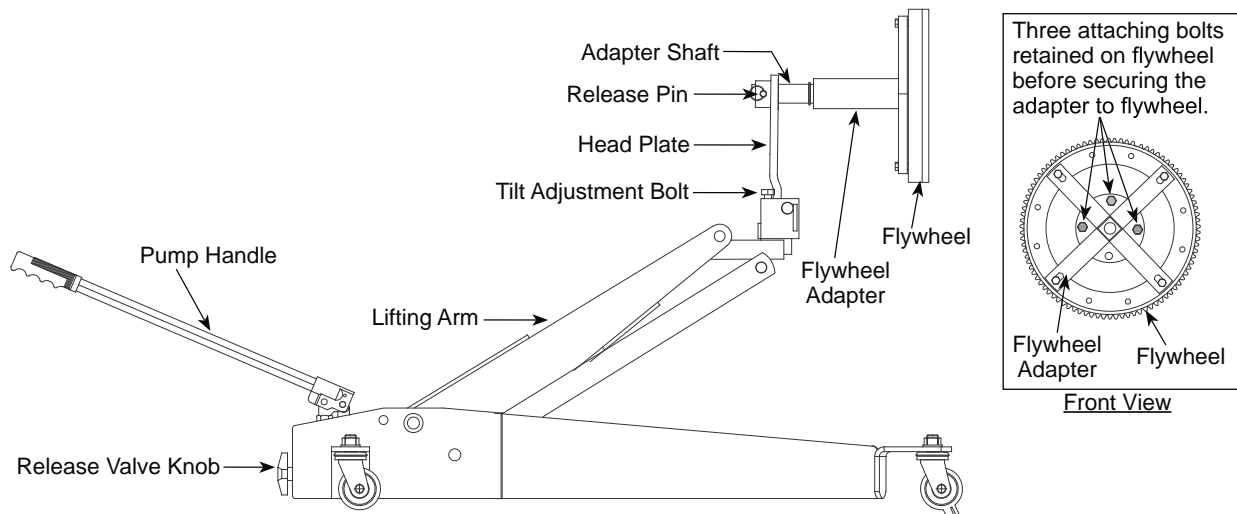

Figure 2 - Flywheel Adapter Operational Illustration
1. Remove all the flywheel attaching bolts (flywheel to crankshaft bolts) except for the three bolts pointed in Figure 2.
1. Close release valve knob, pump the handle and raise the flywheel into position shown in Figure 2 for installation. Adjust the flywheel using tilt adjustment bolt to align the flywheel with the crankshaft.